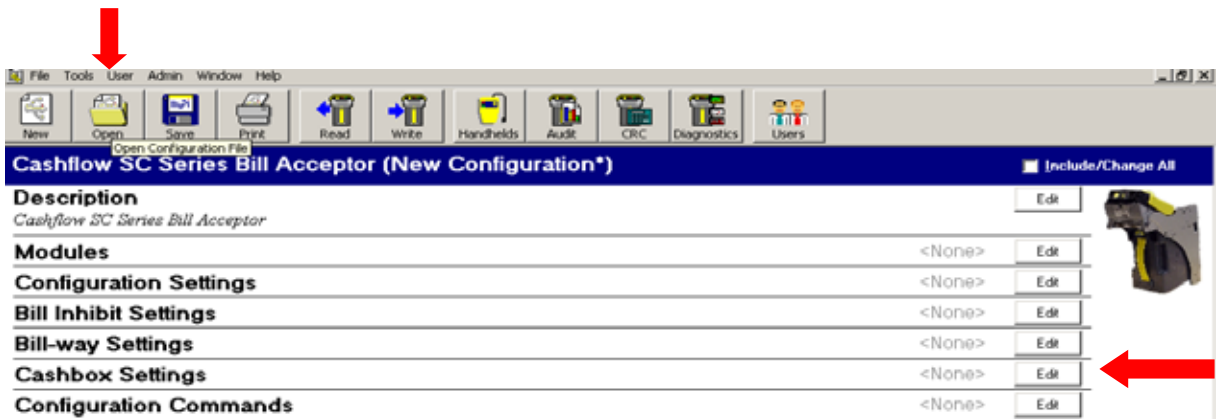

fig.4
2. Select the open  button from the main screen as shown in fig. 4
4. Select the edit  box for the cashbox settings . See fig.4